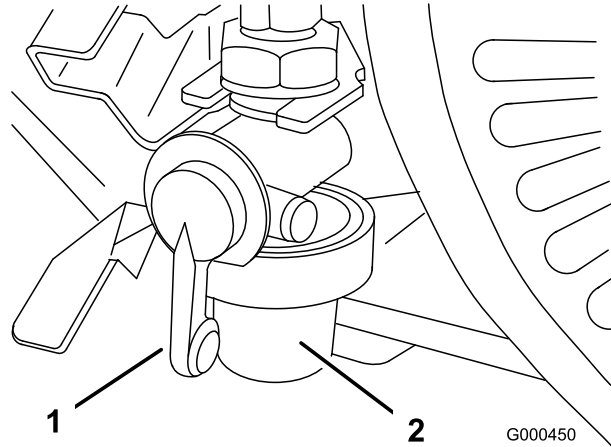

Figure 27
1. Close fuel shut off valve and unscrew bowl from filter body (Figure 27).